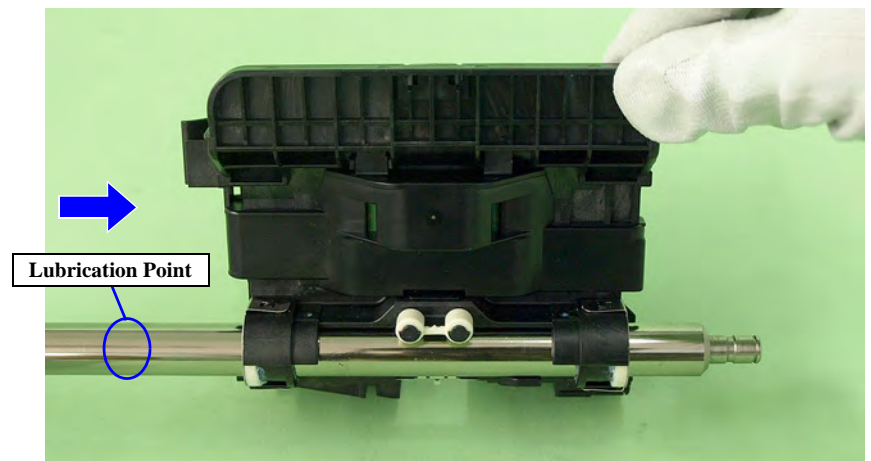

Figure 6-21. Lubricating the Carriage Shaft (3)
4. Move the Carriage Unit to the right end of the Carriage Shaft viewing the Unit from the rear, and lubricate grease with the syringe at the point shown in refer to Figure 6-21.